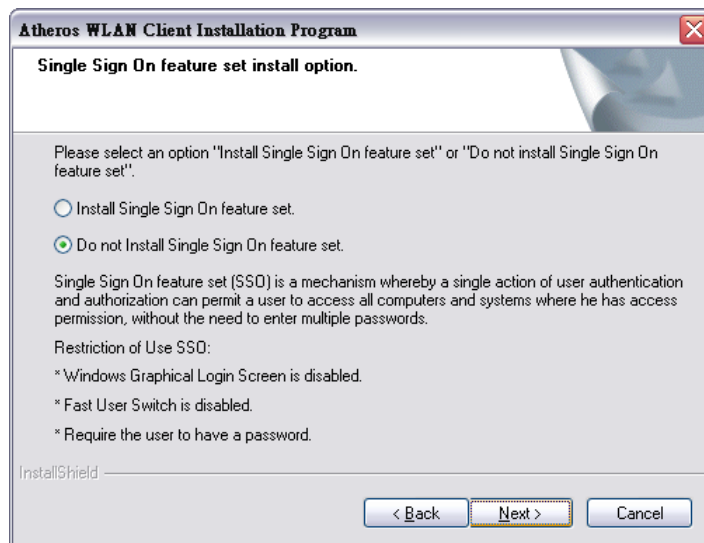

Figure 6-36: Wireless Driver – Single Sign On Feature
Step 11: The Single Sign On Feature window appears (**Figure 6-36**). Choose whether to install the Single Sign On feature set.
Step 12: Click **Next** in **Figure 6-36** to start to install the driver.